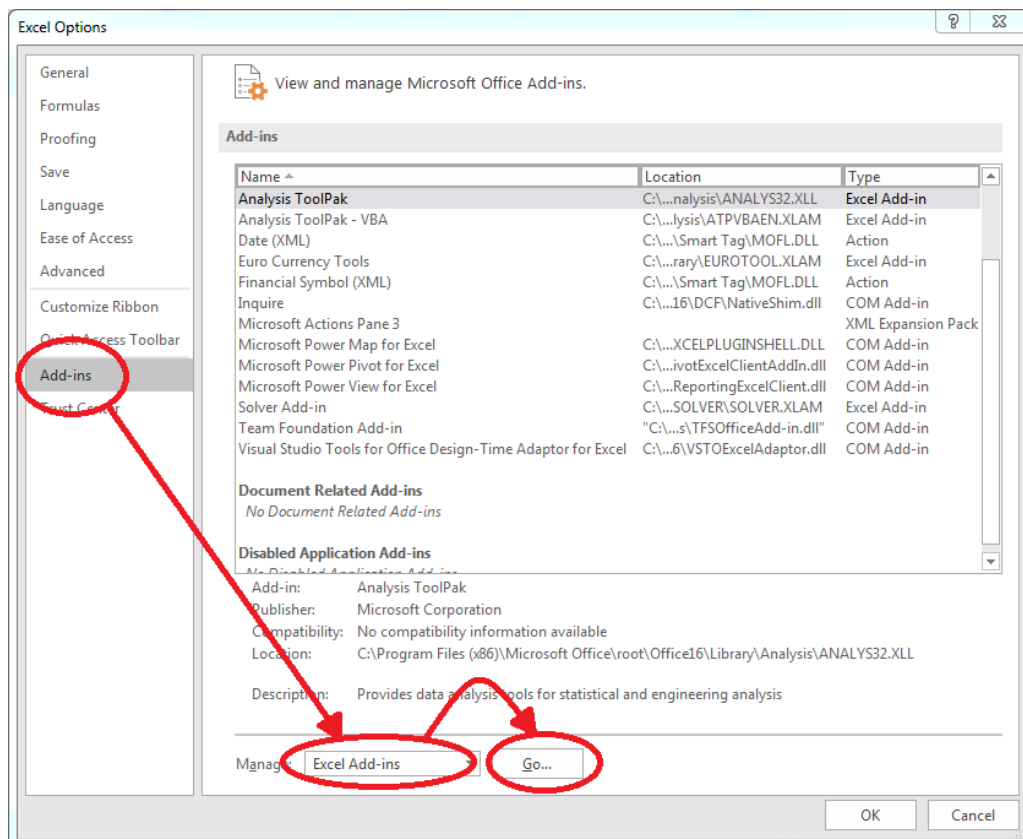

Figure 2.20: Dialog window "Add-Ins"
- Click on "Add-Ins" in the next menu (Figure 2.20)